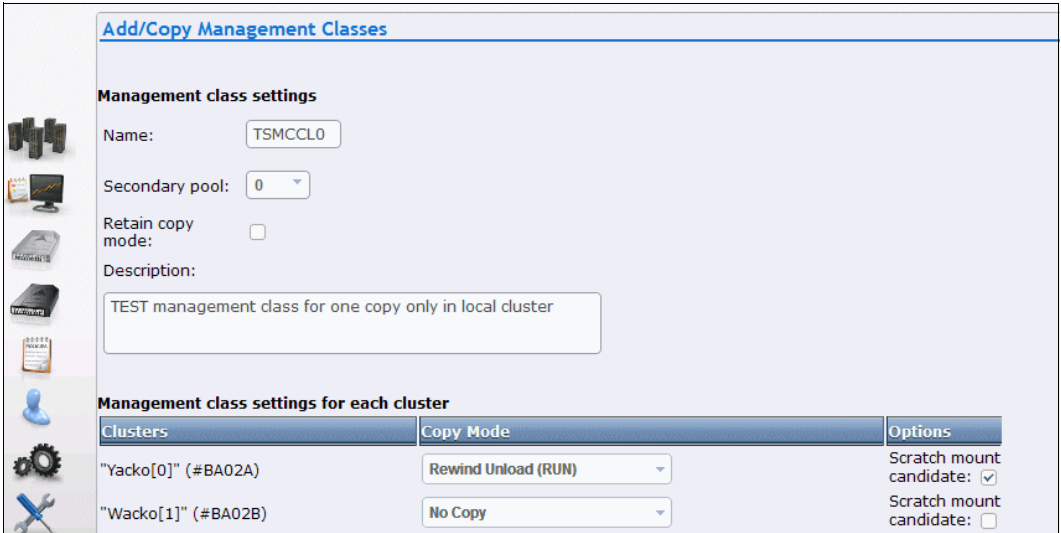

Figure I-6 Management Class for TEST
- Define an MC for TEST that is named TSMCCL0 with only one copy of data and cache residency in cluster0, as shown in Figure I-6. Set the Copy Consistency Point to RUN on cluster0 and NOCOPY on cluster1. The other MCs are defined in a similar way.